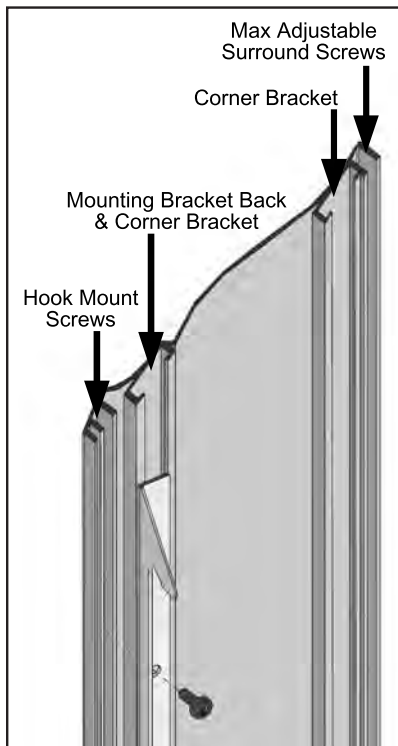
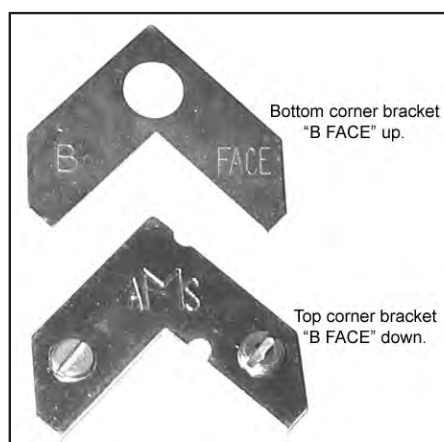

Figure 60: Screw Hook Bracket to the Trim.
Figure 62: Two pieces of corner bracket.
1. Line up the two (2) screw holes in the left hook bracket with the second slot in on the back of the left trim side (refer to Figure 60). Center the bracket between the top and bottom of the trim (approximately 1/8" (2.5mm) from either end) and fasten the bracket in place using two (2) #8 screws.
4. Attach the left side trim to the top trim using two (2) corner brackets (see Figure 60 & 61) to secure pieces together. There are two (2) main pieces to each corner bracket (see Figure 62). When installing the corner pieces into the trim the "B FACE" sides must face each other and the screw heads are to face out. With the bracket in place and the top and a side trim snug together use a flat head screwdriver to turn the two (2) screws in each corner bracket to tighten them into the side trim first, then the top trim.
6. For 4-Sided Trim Only: Slide two (2) corner brackets into place at either end of the bottom trim and attach the bottom trim to the left and right trim using the same method used in Step 4, except tightening the side trim first, then the bottom trim.
8. Only if installing Adjustable Surround with maximum dimensions from Table 1; fasten the two (2) adjustable surround corners to the outside rim of the Trim (pointed out in Figure 60) with four (4) T-20 screws for each surround corner.